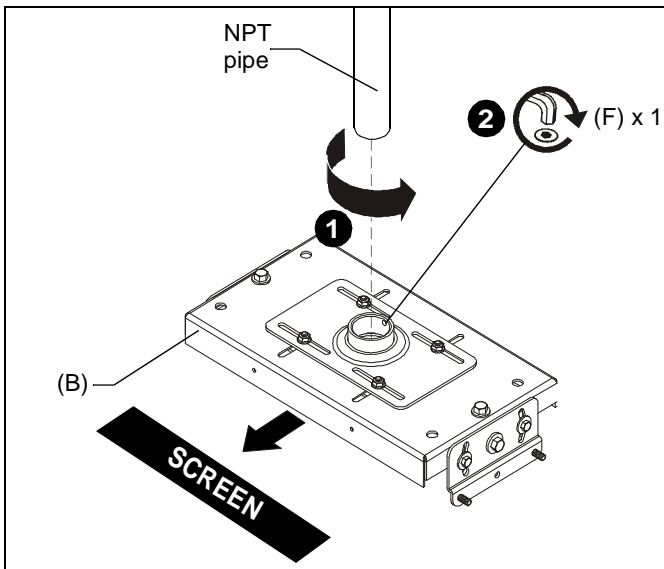

Figure 1
1. Thread the VCM mount (B) onto the existing 1-1/2" NPT pipe until tight. (See Figure 1)
**NOTE:** Ensure that long edge of VCM mount is located parallel to the screen. (See Figure 1)
2. Tighten the 5/16-18 x 3/8" set screw (F) into the VCM mount threaded collar to prevent movement of the VCM. (See Figure 1)